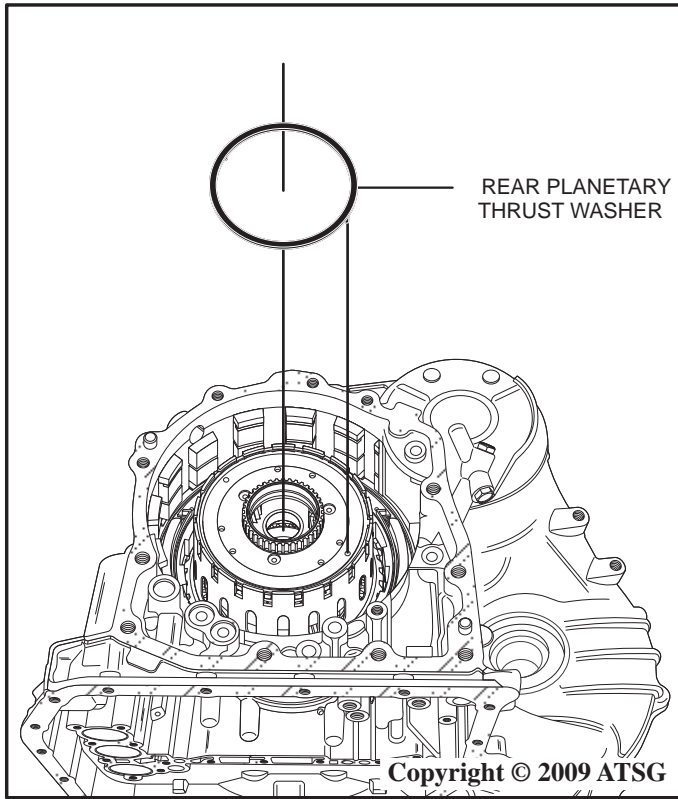

Figure 161
32. Coat the rear planetary thrust washer with a small amount of Trans-Jel® and install into the locating holes in the rear planetary as shown in Figure 161.